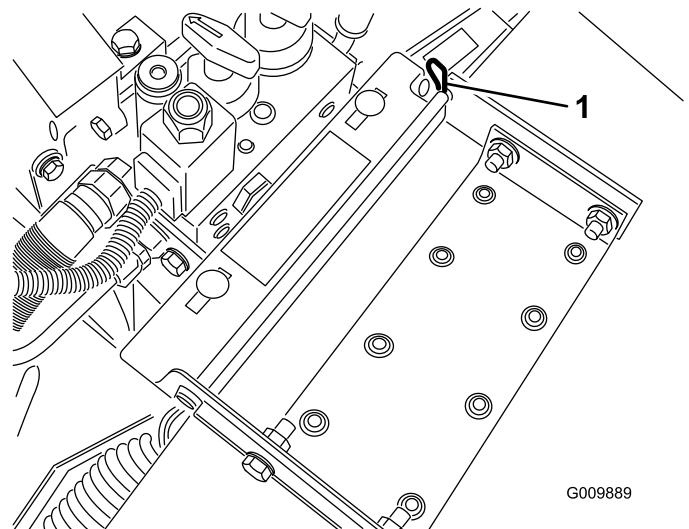

Figure 36
- Remove the cotter pin securing the hood pivot to the mounting brackets (Figure 36).